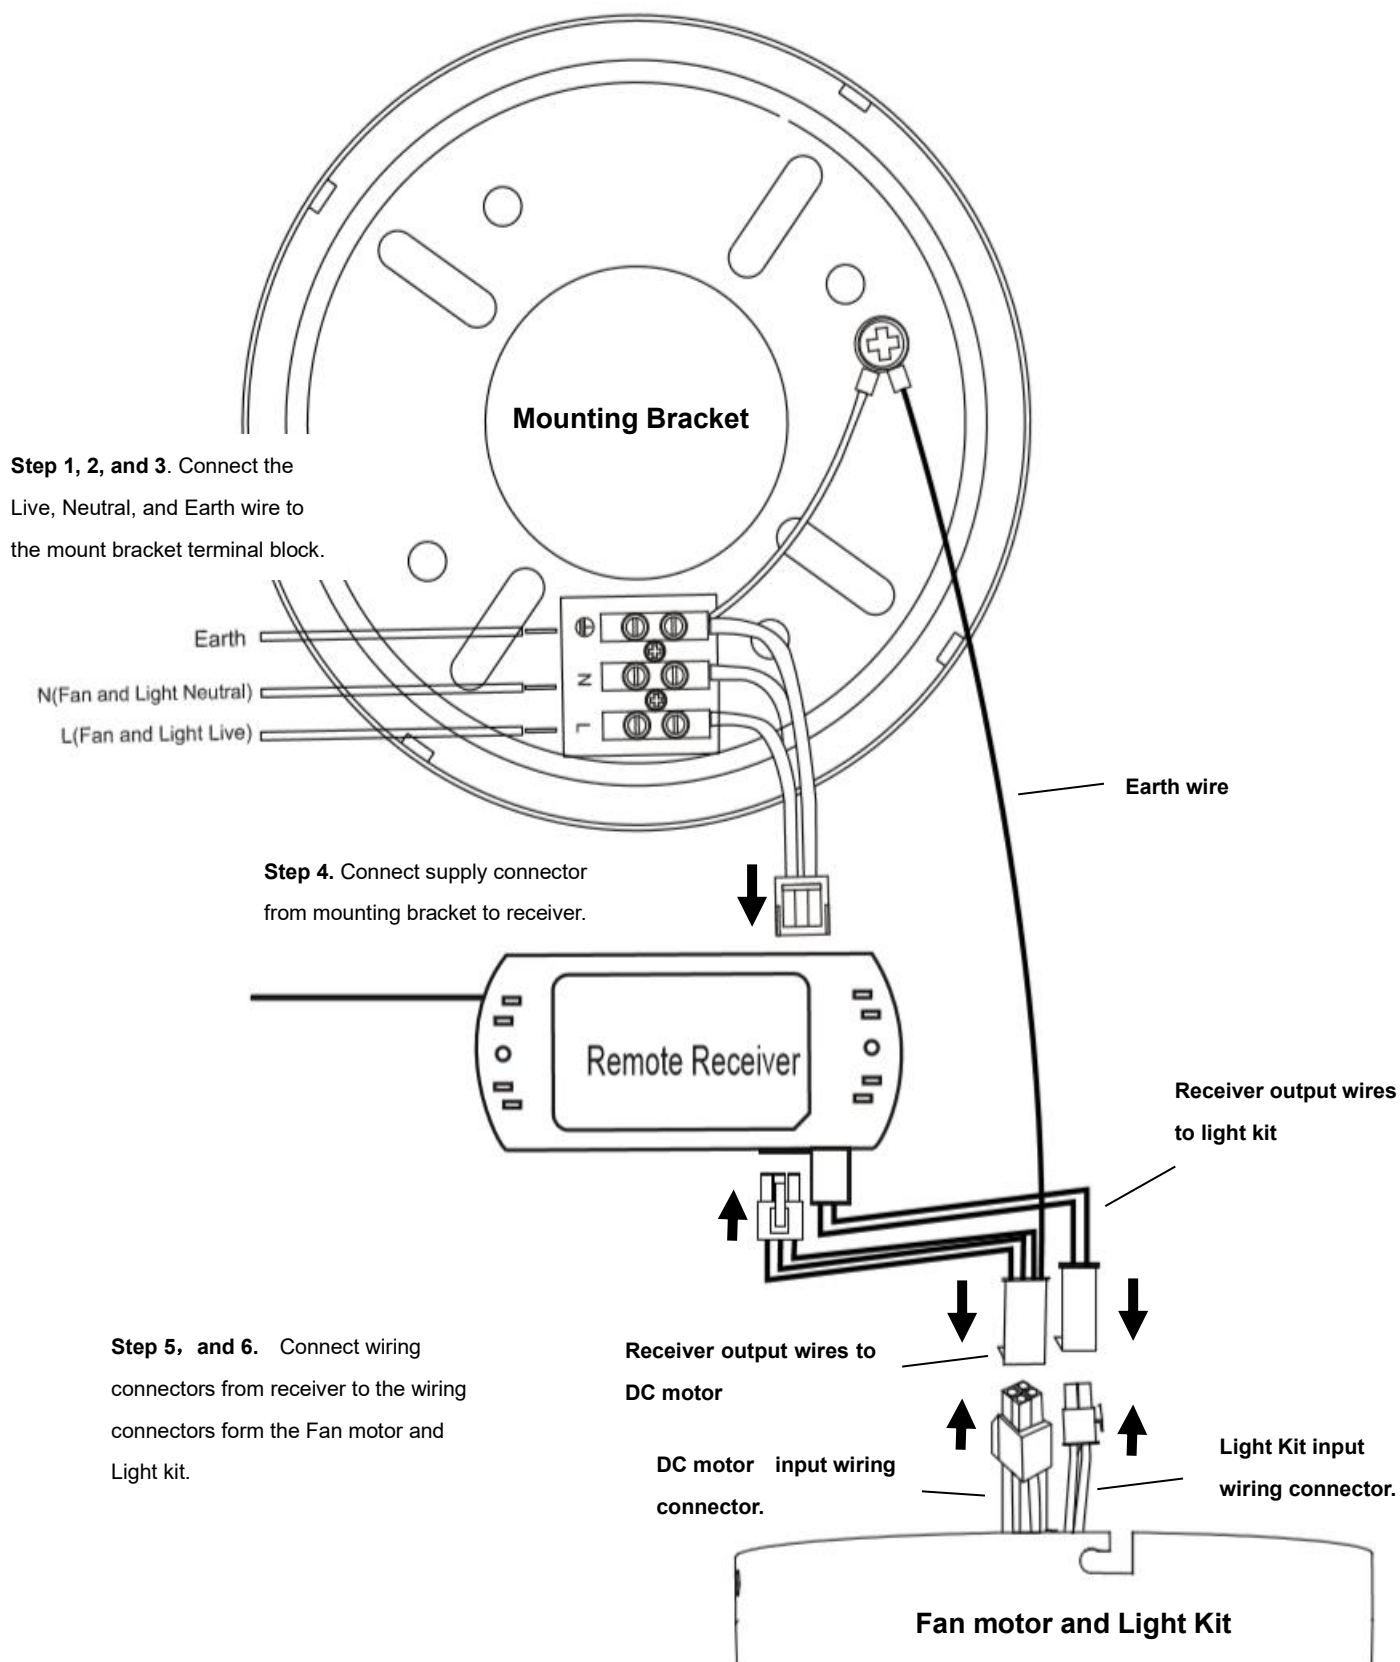

Fig. 4
PREPARE AND COMPLETE THE ELECTRICAL WIRING --- WIRING DIAGRAM (FIG. 4)
From mains supply to mounting bracket terminal block: (Fig. 4)
From mounting bracket to receiver and motor: (Fig. 4)
- Connect the output wires of DC motor driver/receiver (from mounting bracket with earth wire) to the output of the DC motor driver/receiver (Fig. 4). Connect the output wires of DC motor driver/receiver with earth wire (from mounting bracket with earth wire) to the input of the fan motor (Fig. 4)